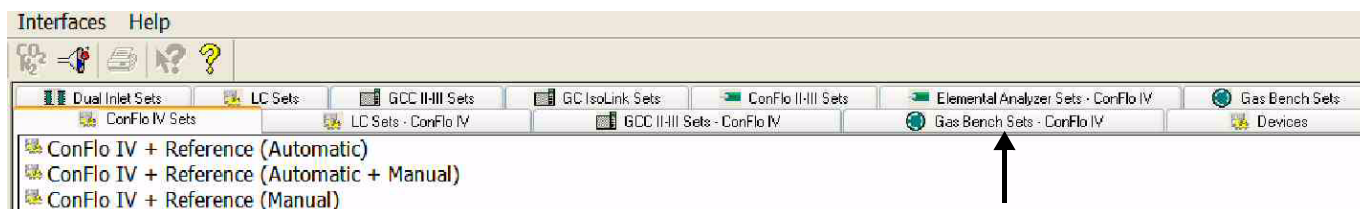

Figure 5-40. Selecting correct tab
5. In the right pane, click on the **GasBench II Sets - ConFlo IV** tab. See Figure 5-40.